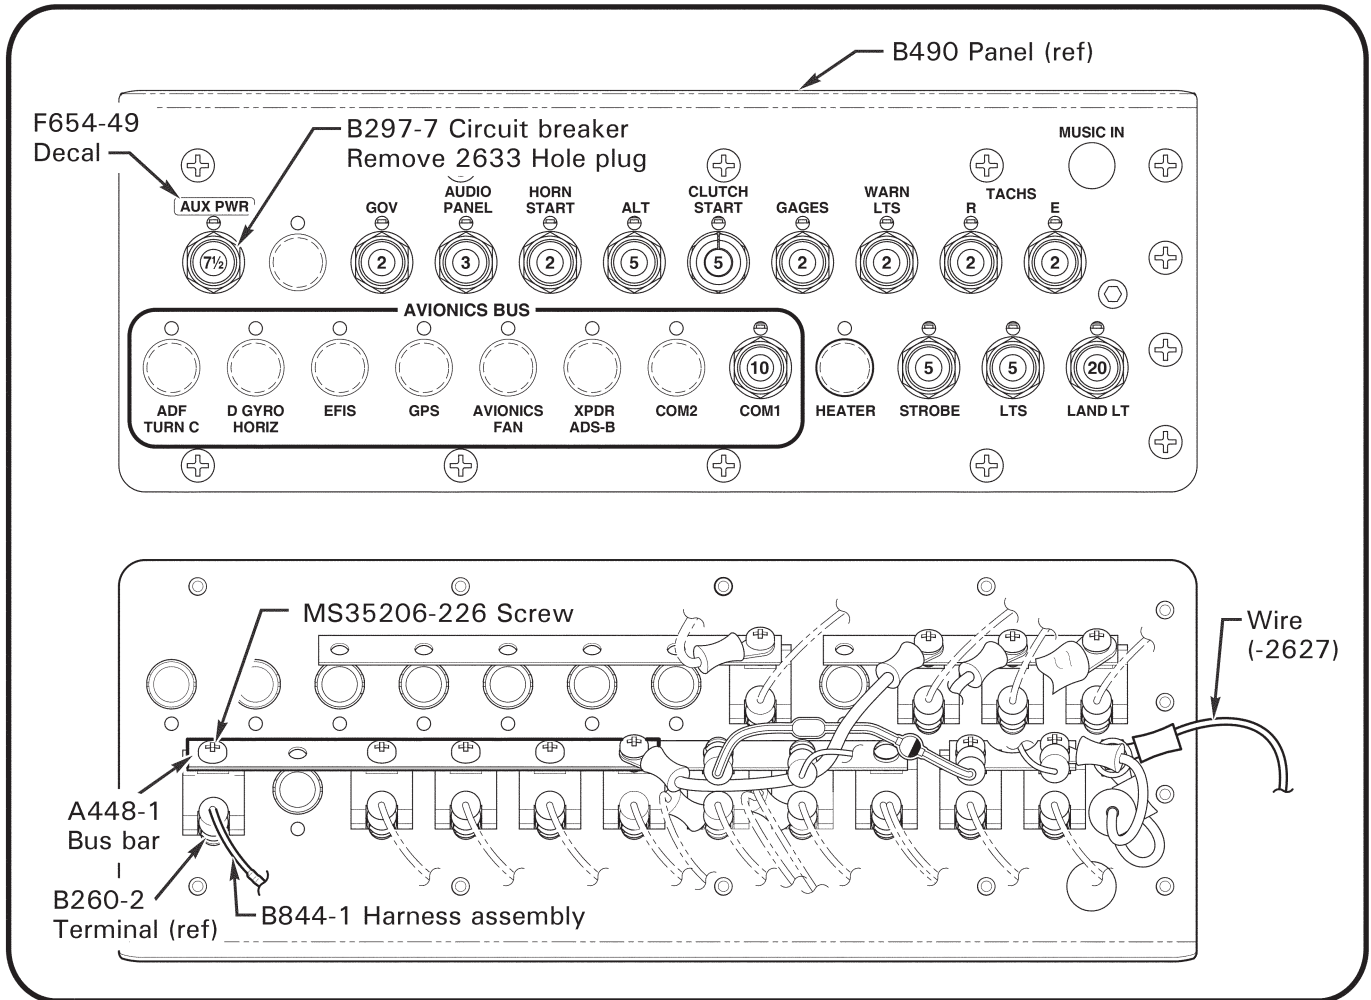

FIGURE 1 Circuit breaker installation
1. Ensure ignition switch is OFF; remove key. Disconnect battery per R22 Maintenance Manual (MM) § 33-10.
4. Refer to Figure 1. Open circuit breaker panel. Using masking tape (or similar product) temporarily mark location of wires as they are removed to ensure correct position of existing wires during removal and installation of A448 bus bar. Install A448-1 bus bar using supplied MS35206-226 screws and existing lockwasher as shown.